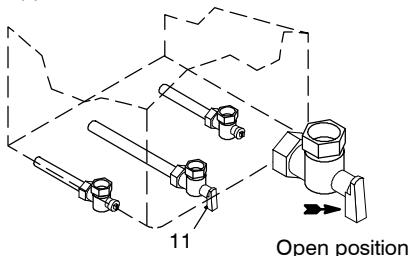

Fig. 7.1
- 1 Inspect the entire installation including the gas meter, test for soundness and purge, all as described in BS 6891; For Ireland (IE), refer to I.S.813.2002.
- 2 Open the gas cock 11 (Fig. 7.1) on the appliance and check the gas connector on the appliance for leaks.